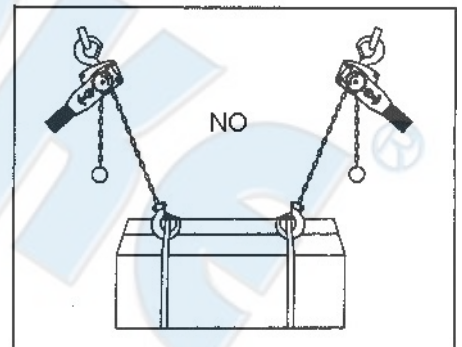

FIGURE 3
11. DO NOT try to suspend load with two blocks. (FIGURE 3).